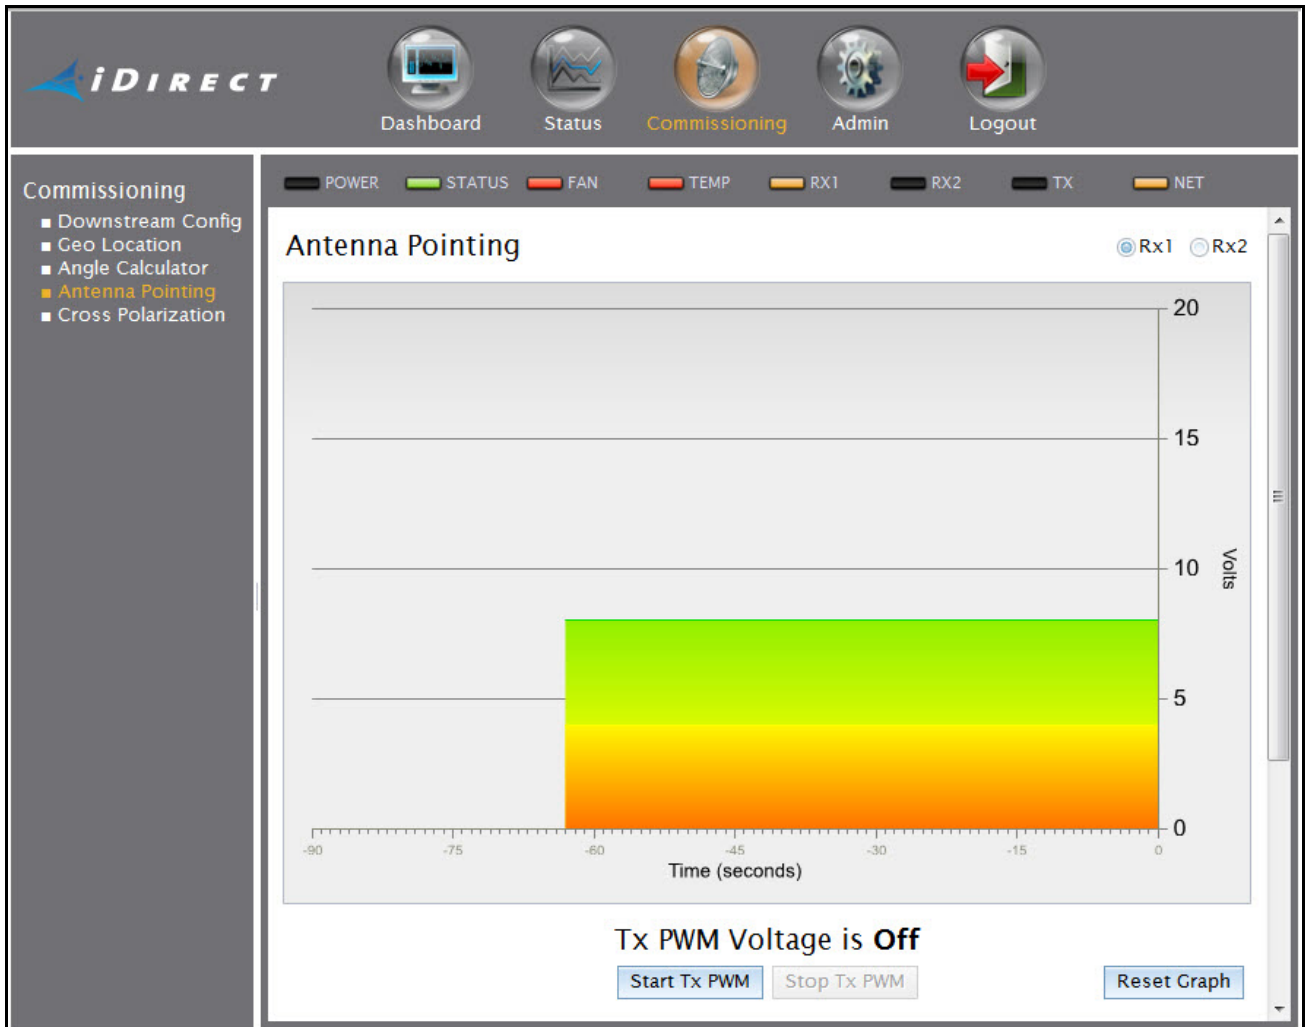

Figure 40. Web iSite Antenna Pointing Graphic Display: X7
4. For dual-receiver models such as the X7, select Rx1 or Rx2 at upper-right. See Figure 40.